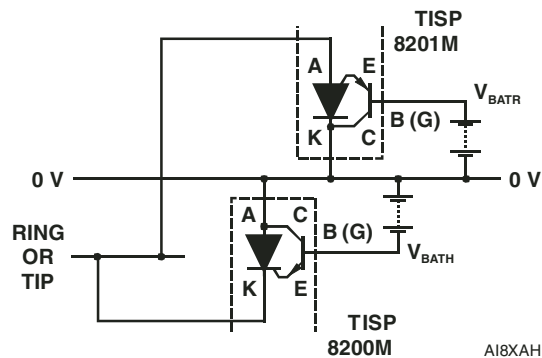

Figure 6. Protector Electrodes
Figure 6 shows the protector electrodes. The package terminal designated gate, G, is the transistor base, B, electrode connection and so is marked as B (G). The following junctions are subject to voltage stress: Transistor EB and CB, SCR AK (reverse and off state). This clause covers the necessary testing to ensure the junctions are good.